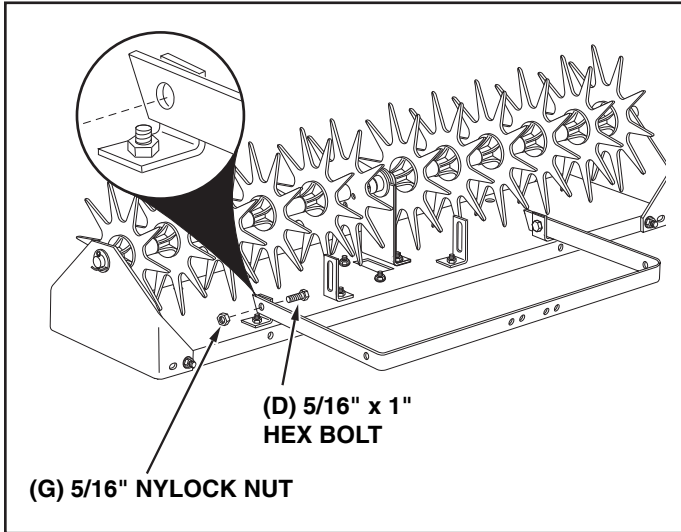

FIGURE 8
14. Assemble the axle bracket to the **outside** of the angle brackets using two 5/16" x 1" hex bolts (D) and 5/16" nylock nuts (G). The ends of the axle bracket must point as shown in figure 8. **Tighten** and then loosen the nuts 1/4 turn.